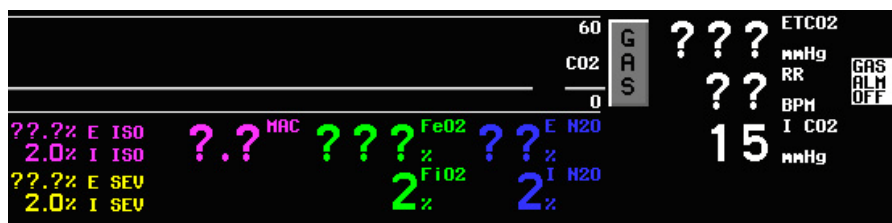

Figure 17-9: Before calibration—??? display for expired numerics and RR
- 3 Ensure that there is no breath detected and that all expired numerics and RR display ??? (refer to Figure 17-9).